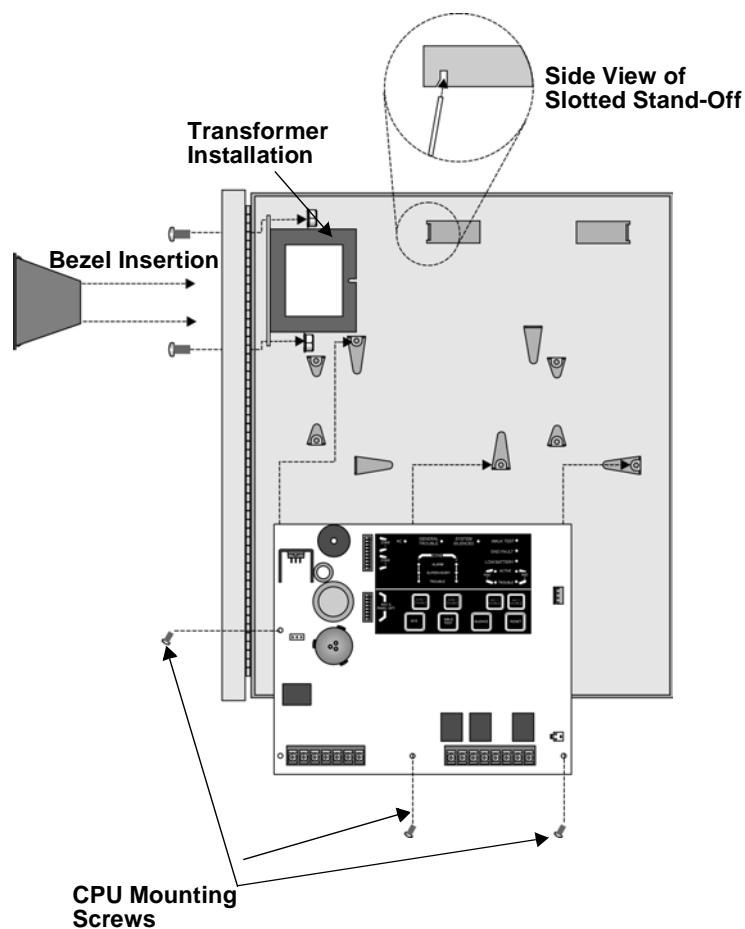

Figure 3-3 The SK-2224 Assembly Diagram
4. Snap the bezel into the opening in the front of the cabinet. See Figure 3-3.
5. With the two #8 screws and the two #8 nuts (with built in washers), mount the transformer in the holes in the upper left hand corner of the cabinet. See Figure 3-3.